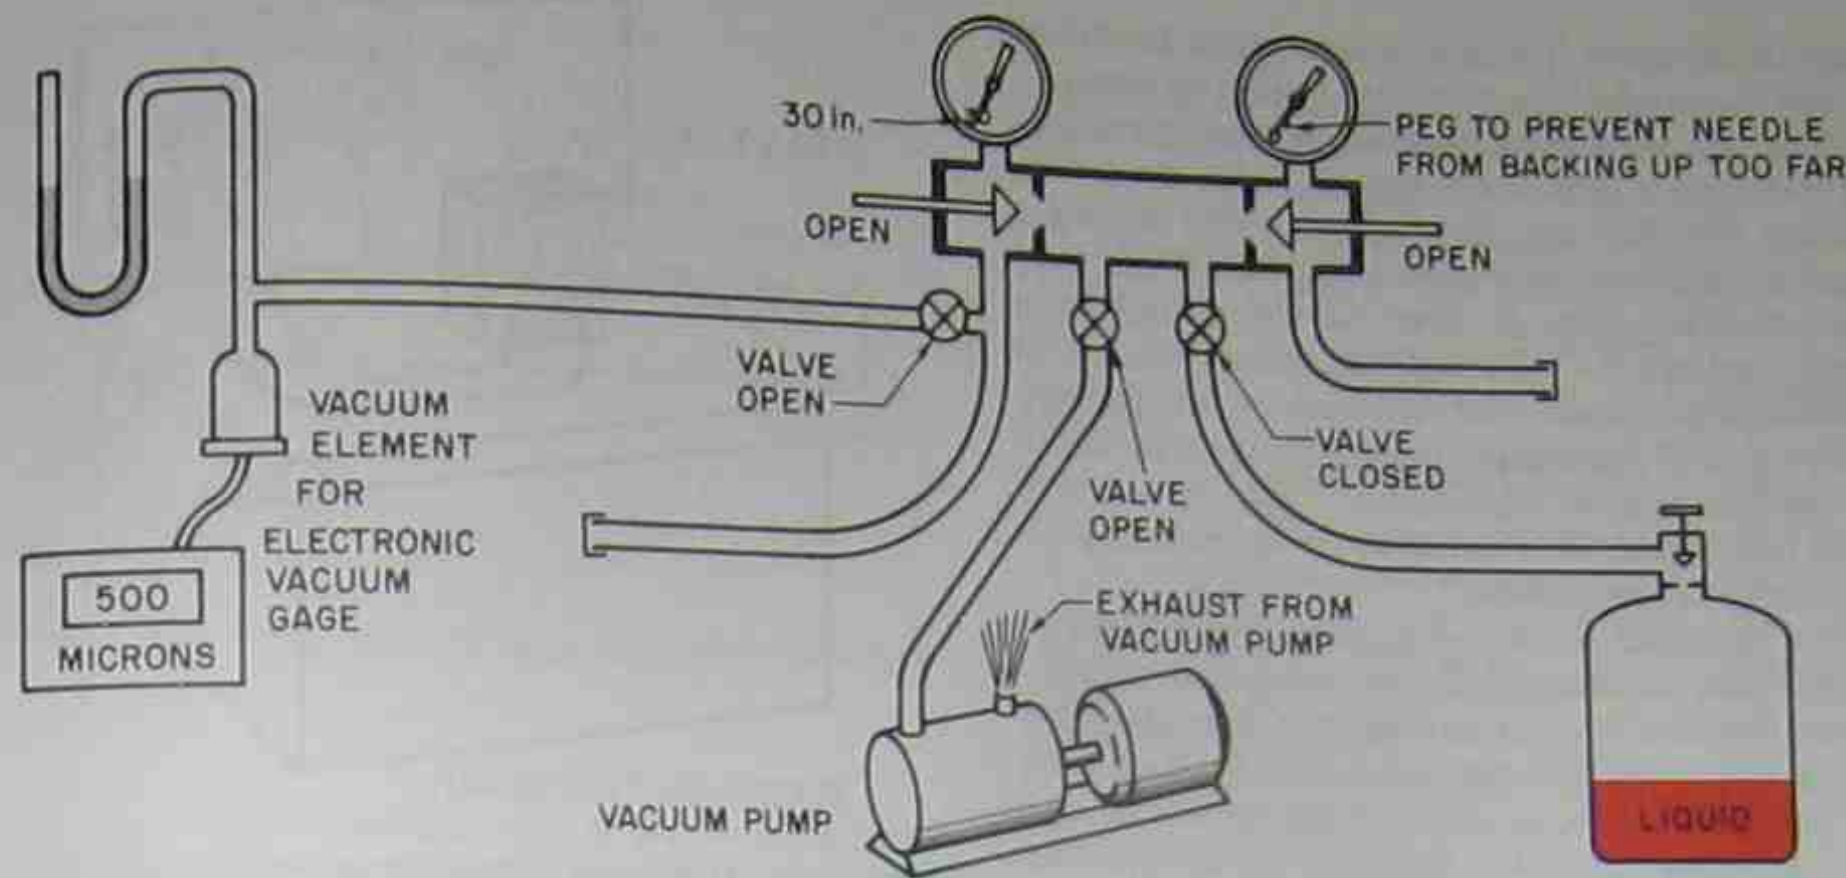

Figure 9-21. Setup to check mercury U tube manometer and an electronic micron gage.
1. Prepare a two-stage vacuum pump for the lowest vacuum that it will pull. Change the oil, if it has been used, to improve the pumping capacity. Connect a gage manifold to the vacuum pump with the mercury manometer and the micron gage as shown in Figure 9-21. The low-pressure gage, the